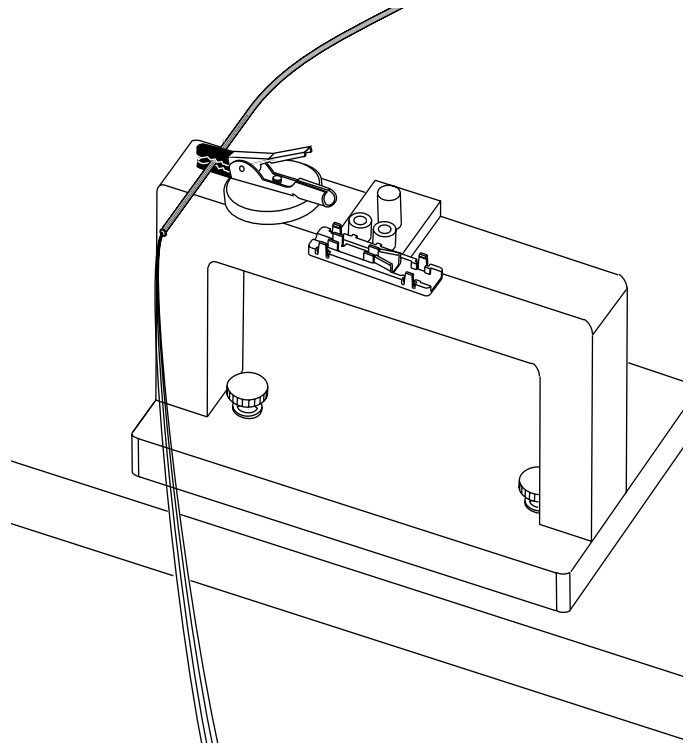

Figure 10
**6.7** Place the bottom of a BTF body on the pins of the assembly tool (Figure 10).